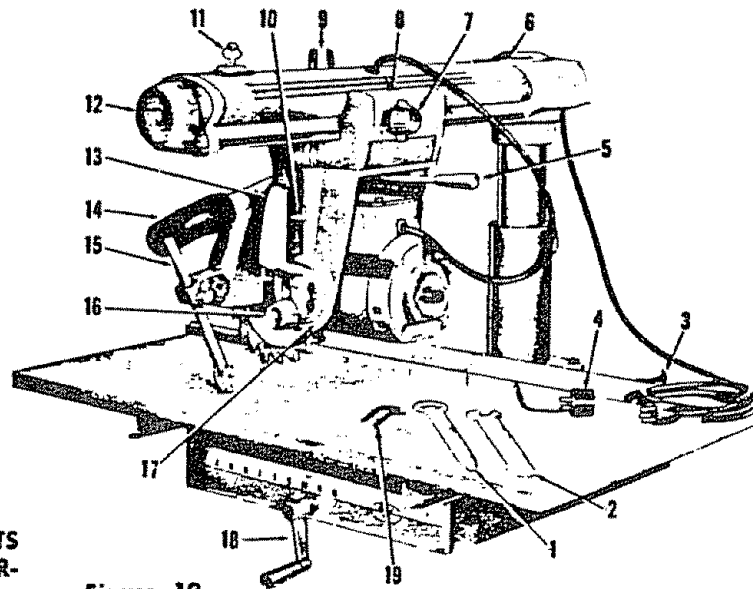
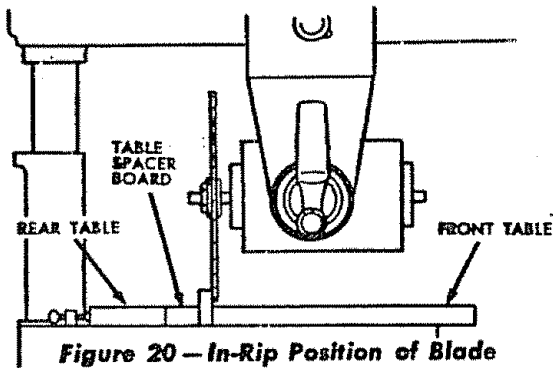

Figure 19
Figure 20 — In-Rip Position of Blade
**RAISING AND LOWERING THE RADIAL ARM** is accomplished by the elevation crank (Item 18, figure 19). One complete turn of this handle will raise or lower the radial arm  $\frac{1}{8}$ ".
**LOCKING THE CARRIAGE TO THE RADIAL ARM** is accomplished by the carriage lock knob (Item 7, figure 19). Turn the knob clockwise to lock; counterclockwise to unlock.
**ANGULAR MOVEMENT AND LOCKING OF THE RADIAL ARM** are controlled by the arm latch handle (Item 12, figure 19). The radial arm can be rotated 360° and locked in any position. The arm is unlocked from any position by a slight counterclockwise rotation of the arm latch handle and is locked in any position by rotating the arm latch handle clockwise until tight. The radial arm has positive stops at 0° and 45° left and right, and is released from these index positions by unlocking and pulling out the arm latch handle (Item 12, figure 19). Due to positive arm locking at the index positions, the arm latch handle may be difficult to pull out. A few turns to the left will release it.
2. Before moving the radial arm to the desired index position, turn the arm latch handle (Item 12, figure 19) just  $\frac{1}{4}$  turn counterclockwise from the locked position.
**MOVEMENT AND POSITION OF THE MOTOR IN THE YOKE** are controlled by the latch pin handle (Item 10, figure 19) and bevel lock knob (Item 16, figure 19). The bevel scale indicates the angular position of the motor with respect to the horizontal from 0° to 90° in either vertical position. The latch pin handle automatically indexes the motor at 0°, 45°, and 90° up and down. Lift to release. At any other position the latch pin handle is not engaged. The bevel lock knob locks the motor to the yoke when the motor is in any position. Locking is clockwise; unlocking is counterclockwise.
**MOVEMENT AND POSITION OF THE YOKE** are controlled by the swivel latch pin knob (Item 9, figure 19) and the yoke clamp handle (Item 5, figure 19). The swivel latch pin automatically indexes the yoke at each 90° position and two 45° positions. Lift to release. The yoke clamp handle locks the yoke to the carriage in any position. Pull to release. Push to tighten. When "In Ripping" it may be desirable to have more free table in front of the saw blade than is obtainable when the radial arm is at the 0° position. With the blade in the normal cross-cut position index the radial arm to 45° left and lock it. Then loosen the yoke clamp handle and index the yoke 45° clockwise. Reclamp the yoke clamp handle. The added free table space is now to the right of the blade and ripping should be done from the right side of the table. The reverse is also true for "Out Ripping" by indexing the radial arm 45° right and indexing the yoke 45° counterclockwise. The added table space is now to the left of the blade and ripping should be done from the left side of the table.
Move the motor along the radial arm until the blade, when spun by hand, just touches the front face of the fence (See Figure 20). The indicator (Item 8, figure 19) on the "In-Rip" scale should now read 0. If not, shift the position of the indicator to read 0.